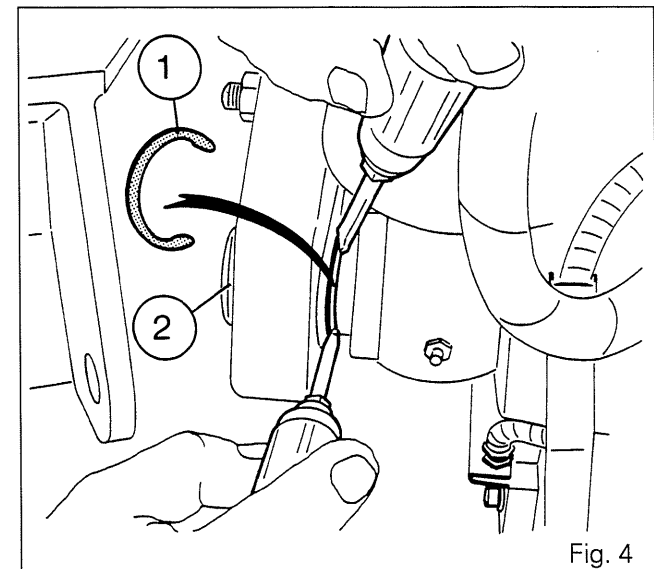

Fig. 4
8. Remove the retaining ring **(1)** (Fig. 4). Push the lift ram pin **(2)** to the outside and remove it.